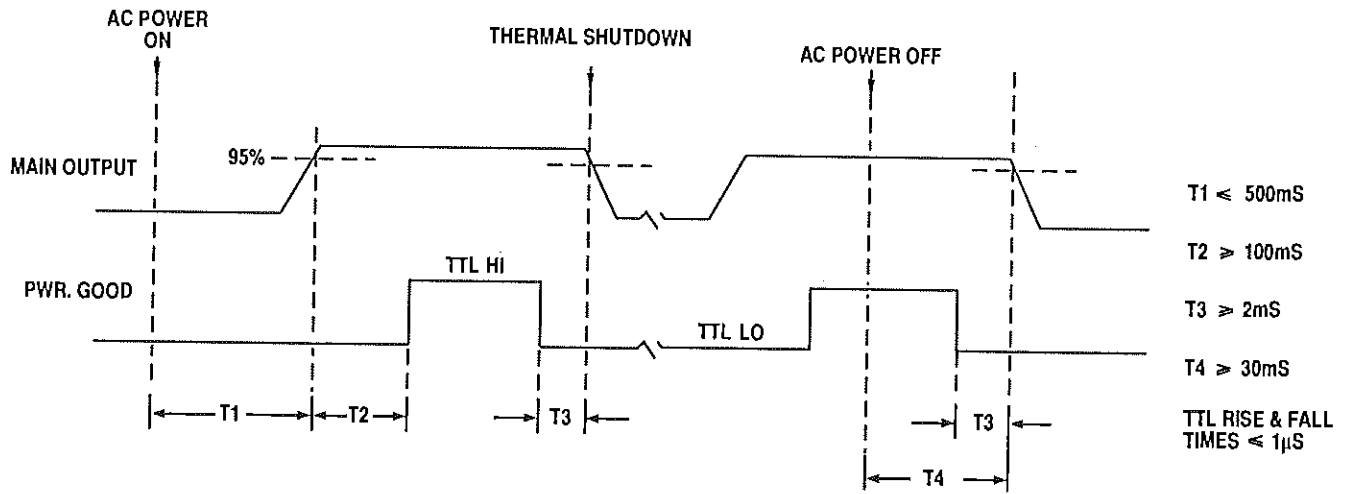

Figure 6. Timing Diagram
- 9.8 **Timing Diagram.** The Power Good signal on pin 5 of J1 is a warning signal for the loss of AC power, main output loss, or thermal shutdown. It is a TTL output signal which is shown in the timing diagram of Fig. 6. As shown, the Power Good signal gives at least a 2 millisecond warning of either a thermal shutdown or loss of AC power.